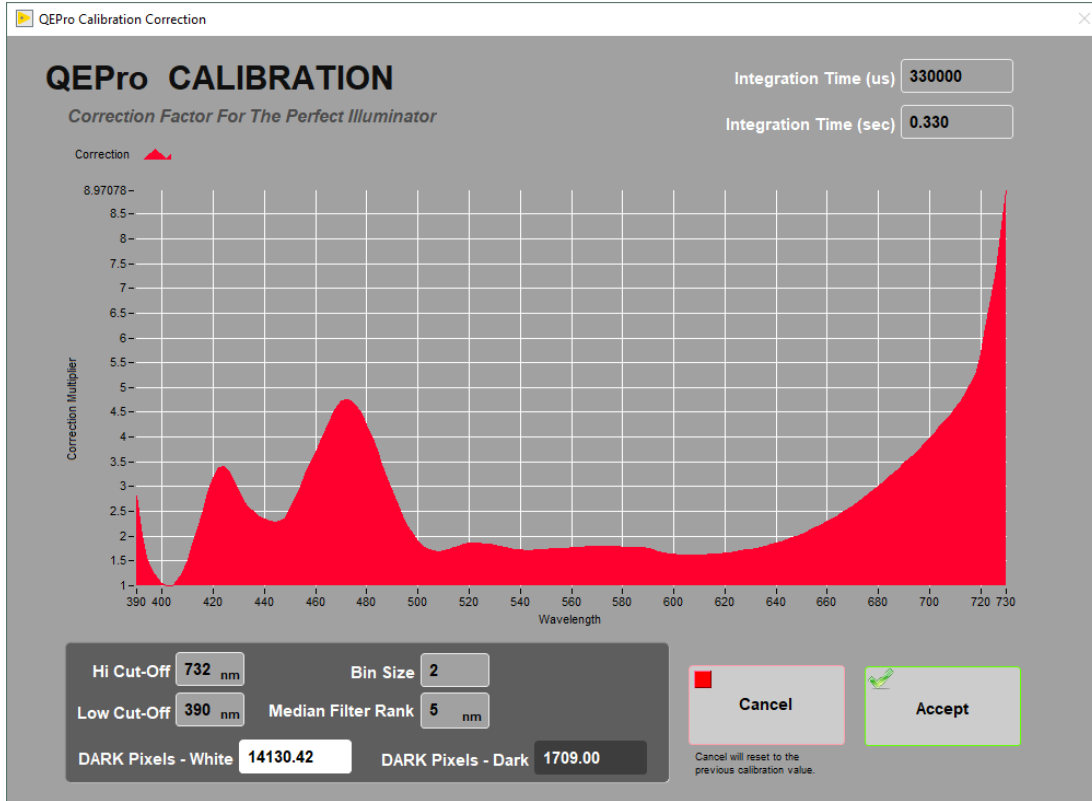

Figure 11. Calibration Normalization Factor
7. The final screen shows the normalization of spectra that will occur with the just-acquired calibration (note: low values are better than high values because of signal-to-noise ratio) (Figure 11). Ideally, the graph would display a straight line at zero value. However, a normalization factor is required to be applied to the XYZ and L*a*b* color indexes. Normalization amplifies the noise as well as the signal. If core flow allows, the data quality can be increased by averaging multiple measurements (in **Measurement Editor** increase the **Average** parameter).